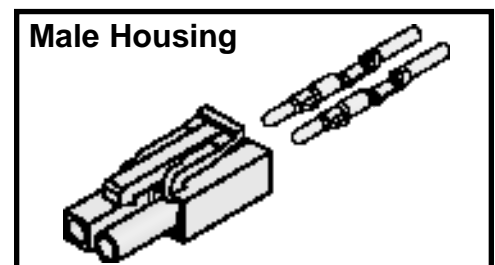

Figure 4
- ☐ Insert the two pin/wire assemblies into the male housing as shown in Figure 4. Pull on the wire to check that the pin is inserted all the way in. It should not pull out of the housing.